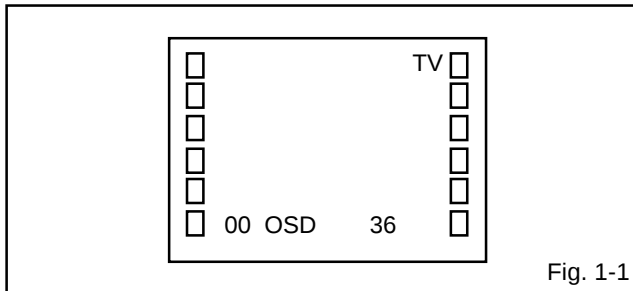

Fig. 1-1
1. In the condition of NO indication on the screen. Press the VOL. DOWN button on the set and the Channel button (9) on the remote control for more than 2 seconds to appear the adjustment mode on the screen as shown in Fig. 1-1.
3. Activate the adjustment mode display of Fig. 1-1 and press the channel button (01) on the remote control to select "CUT OFF".
4. Activate the adjustment mode display of Fig. 1-1 and press the channel button (12) on the remote control to select "R. BIAS".
10. If the picture is too much green. Activate the adjustment mode display of Fig. 1-1 and press the channel button (28) on the remote control to select "CB PED".
12. If the picture is too much red. Activate the adjustment mode display of Fig. 1-1 and press the channel button (29) on the remote control to select "CR PED".
3. Activate the adjustment mode display of **Fig. 1-1** and press the channel button **(03)** on the remote control to select "H.PHASE".
3. Activate the adjustment mode display of **Fig. 1-1** and press the channel button **(07)** on the remote control to select "V. SIZE".
2. Activate the adjustment mode display of **Fig. 1-1** and press the channel button **(33)** on the remote control to select "LEVEL".
3. Activate the adjustment mode display of **Fig. 1-1** and press the channel button **(34)** on the remote control to select "SEP1".
1. Activate the adjustment mode display of **Fig. 1-1**.
3. Activate the adjustment mode display of **Fig. 1-1** and press the channel button **(16)** on the remote control to select "BRI. CENT".
3. Activate the adjustment mode display of **Fig. 1-1** and press the channel button **(24)** on the remote control to select "TINT".